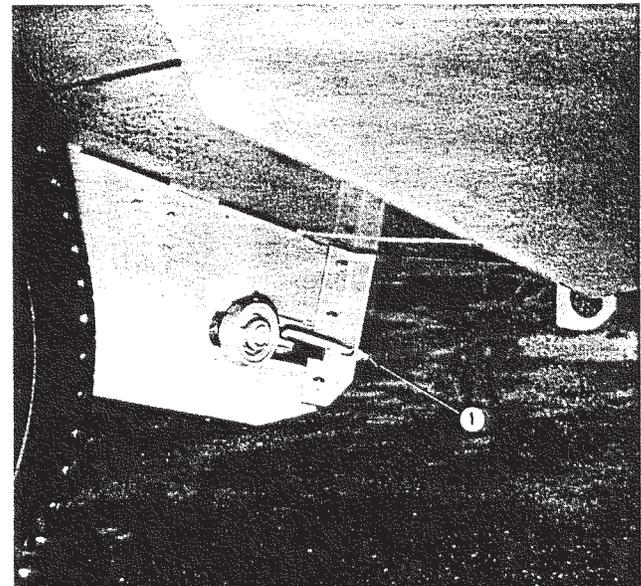
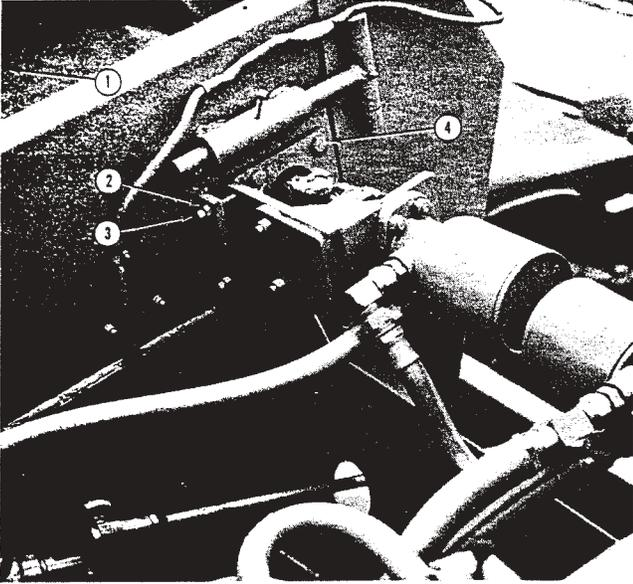

Figure 16
Figure 17
2. Should it be impossible to obtain centered belt operation by adjusting the tail pulley (Figure 16) it will then be necessary to adjust the head pulley as outlined below. (Figure 17).
For left hand conveyors. (Figure 17).